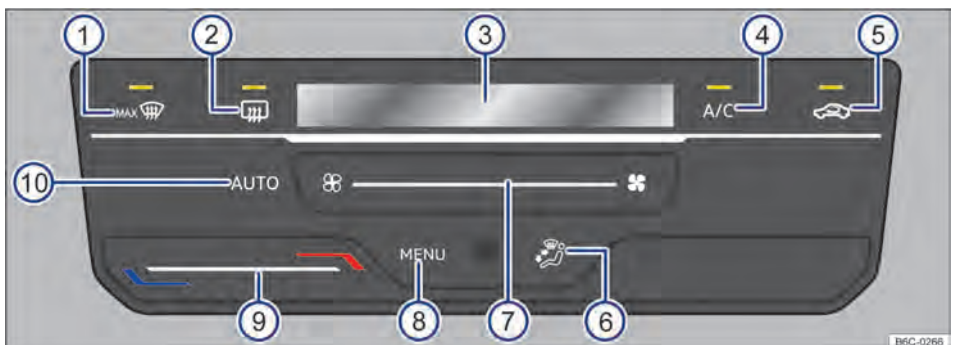

Fig. 84 Climatronic controls.
- *Climatronic*: slide your finger to the left under the function surface → Fig. 84 ⑦, then press the leftmost  button.
When touching the function button  → Fig. 84 ⑩ it is possible to switch on the Climatronic automatic mode.
The automatic mode ensures constant temperatures in the vehicle interior. The air temperature, the air volume and its distribution is automatically regulated. Automatic operation turns off when ventilation is changed manually → Fig. 84 ⑦ or by changing the air distribution across the function button → Fig. 84 ⑥.
- *Climatronic*: touch the function button  → Fig. 84 ④ to turn on and off the cooling functioning.
- *Climatronic*: slide your finger under the function button → Fig. 84 ⑨.
On the Climatronic display → Fig. 84 ③ the set temperature is displayed.
- *Climatronic*: slide your finger under the function button → Fig. 84 ⑦.
- *Climatronic*: Touch the function button  → Fig. 84 ⑤.
- *Climatronic*: touch the function button → Fig. 84 ⑥ on the desired position, the selected distribution will be indicated on the display ③.
- *Climatronic*: Touch the function button  → Fig. 84 ①.
- *Climatronic*: touch the function button  → Fig. 84 .
For vehicles with VW Play, press **MENU** → Fig. 84  to open the air conditioning menu on the radio.